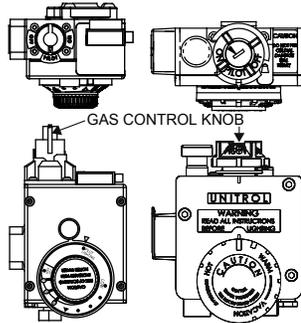

Figure 1
1. Turn the water heater gas control knob to “off” and allow the burner area to cool completely, approximately 15 minutes, see Figure 1.